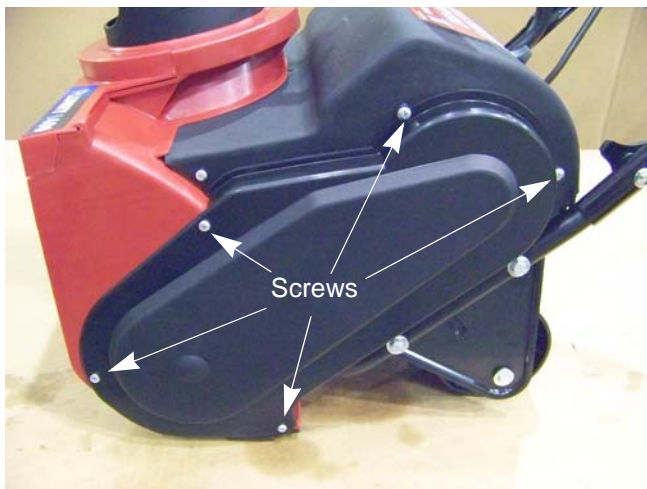

Figure 3.2
2. Remove belt cover by removing the five screws that hold it to the snow thrower using a #2 phillips screw driver. See Figure 3.2.